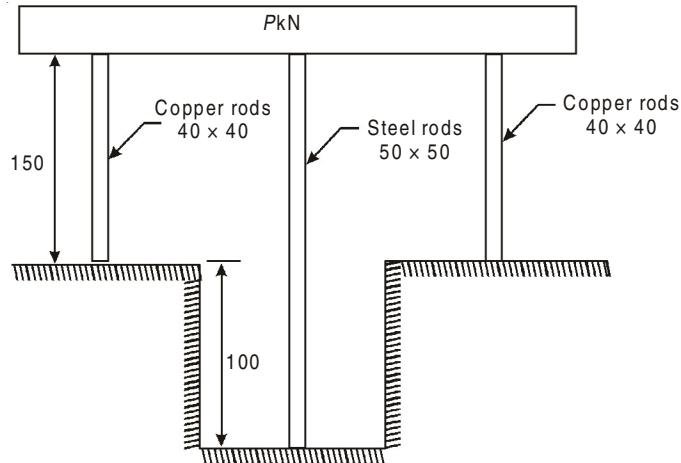

Fig. 1.28
- 1.55. Two copper rods and a steel rod, together support a rigid uniform beam weighing P kN as shown in Fig. 1.28. The stresses in copper and steel are not to exceed 60 kN/mm^2 and 120 N/mm^2 respectively. Find the magnitude of